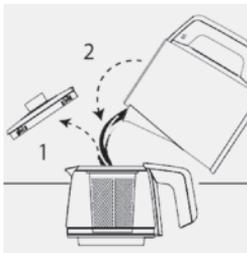

Figure 4- Adding the Boiled Water on the Tea
- Take the boiling / heat stabilising switch (5) to position. After boiling the water, add the boiled water in the filter for brewing the tea. (Figure 4). When the tea reaches the brewing level, it is ready to be served.